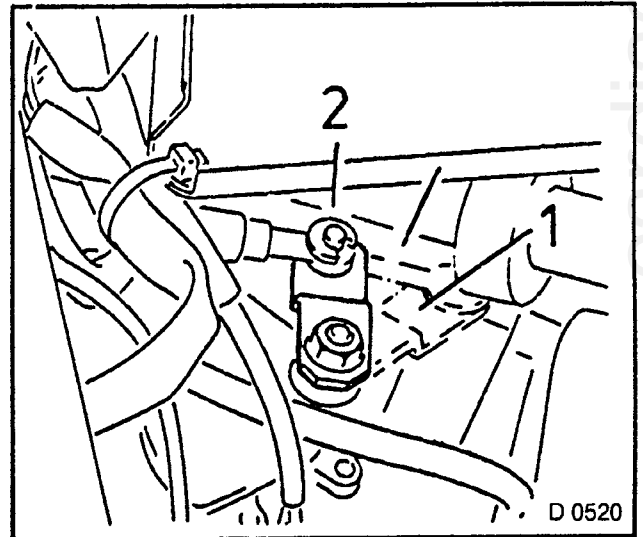

Fig. 230
4. Turn actuation lever on transmission right (towards battery holder) as far as stop (Fig. 230 Item 1) — must catch.